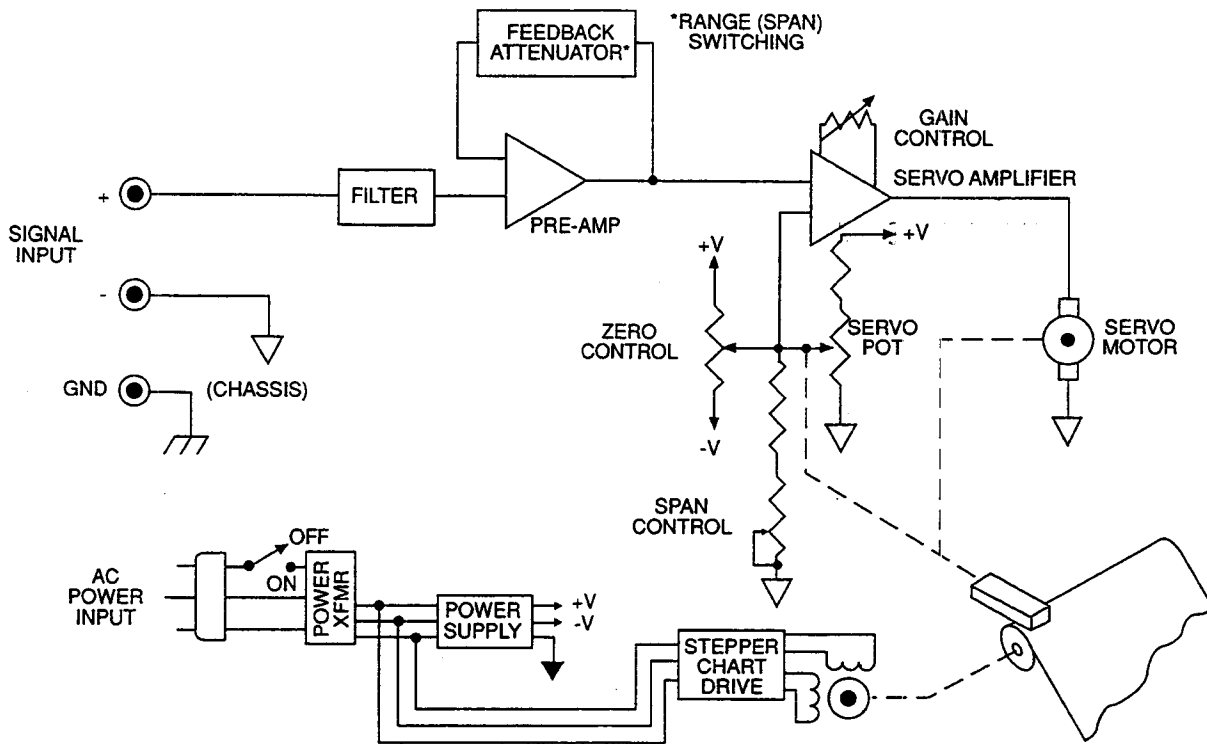

Figure 3-1. General Block Diagram
- Since the recorder pen is mechanically coupled to the servo motor and servo potentiometer, its position on the chart represents an accurate and continuous record of the input signal (See Figure 3-1).